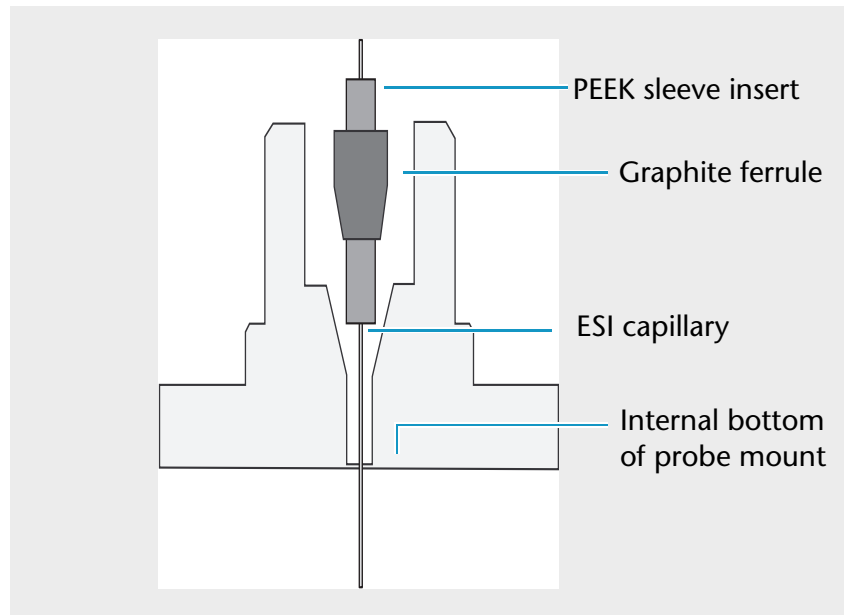

Fig. 42 View of ESI probe mount, showing the insertion of the capillary
2. While holding the ESI probe in the vertical position, use tweezers to insert the capillary, PEEK tube insert, and graphite ferrule assembly into the ESI probe. See Figure 42.